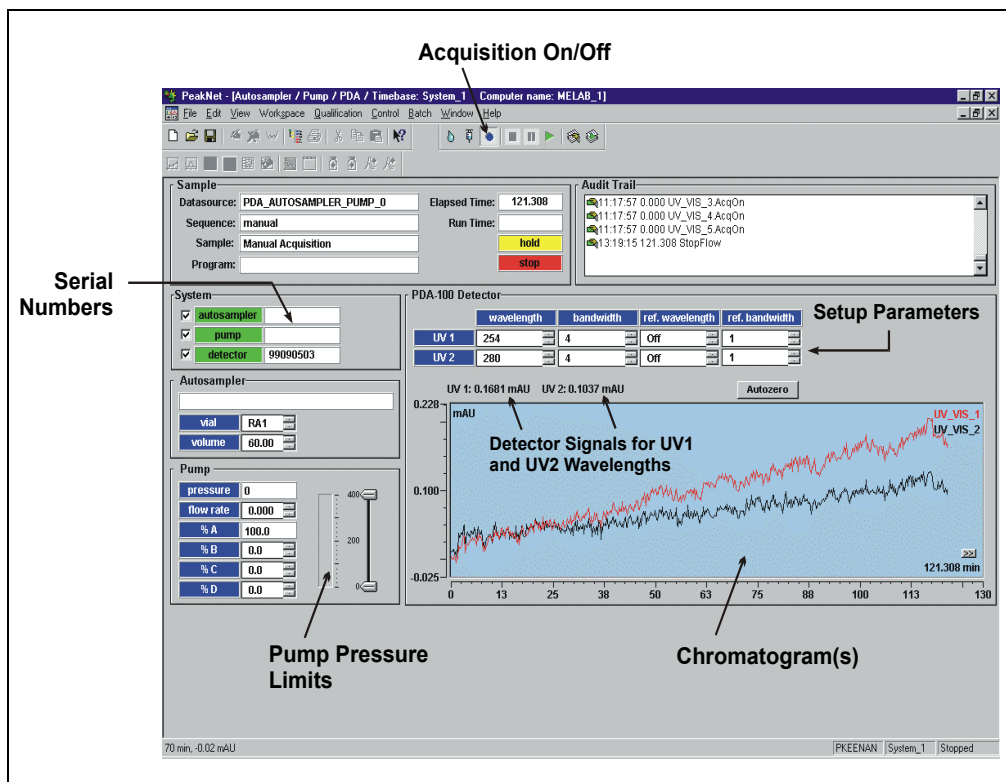

Figure 3-1. PDA-100 2D Control Panel Example
- DIONEX\_PUMP\_PDA\_AUTOSAMPLER.PAN, the 2D control panel, monitors chromatograms of up to five signals (see Figure 3-1).